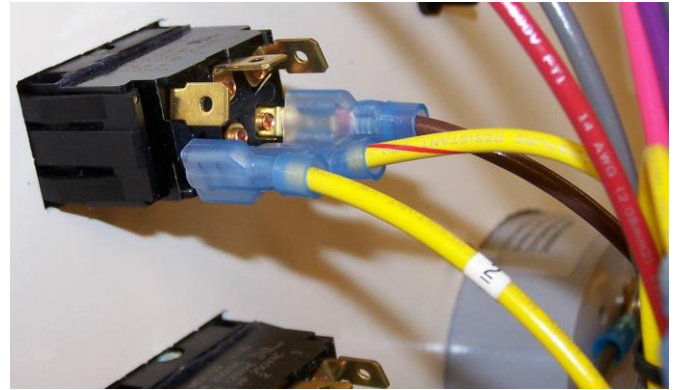

Figure 8
3. The Yellow wire labeled #2 connects to the “FOR/REV” switch (Figure 8). Remove the current yellow wire from the switch and terminal block #15. Connect the new wire to the switch.